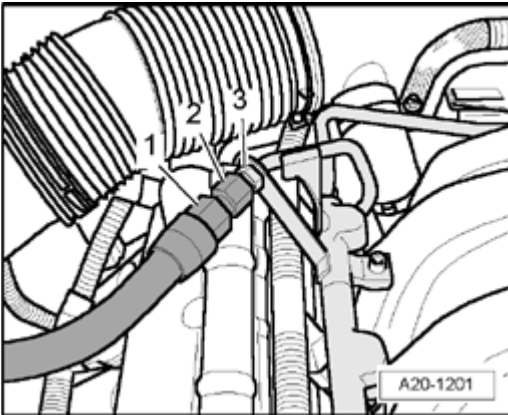

Fig. 206: Unscrewing/Screwing Fuel Hose From Connection On Fuel Rail Pipe
- Loosening and tightening union nut in vehicles as of 07.03. See **Fig. 206**